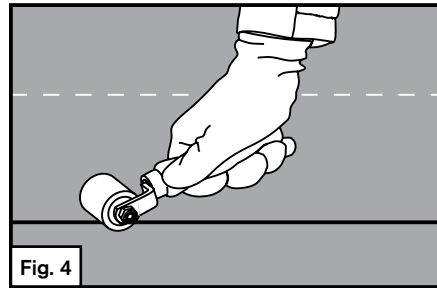

Fig. 4
**Step 9.** Roll side laps and end laps firmly with a hand roller to ensure full adhesion. See Fig. 4
The area between the granular surface and self-adhesive backing can be heated with a hot air welding tool and rolled with a hand roller. This will ensure a water tight seal to the end laps. See Fig. 4